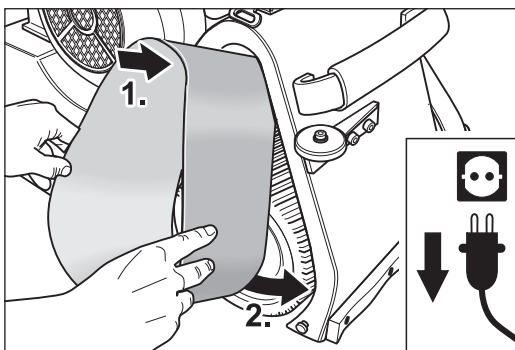
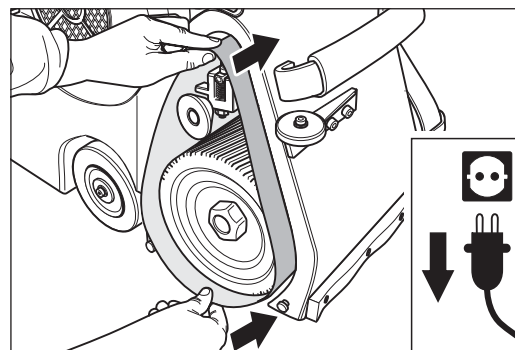

Fig. 29 Position the new sanding belt on the tensioning roller of the drive unit.
Fig. 30 Push the sanding belt far enough over the sanding drum and tensioning roller so that the sanding drum is fully covered by the sanding belt.
- 6 Position the new sanding belt on the tensioning roller of the drive unit (Fig. 29) and push it over the tensioning roller and the sanding drum (Fig. 30).